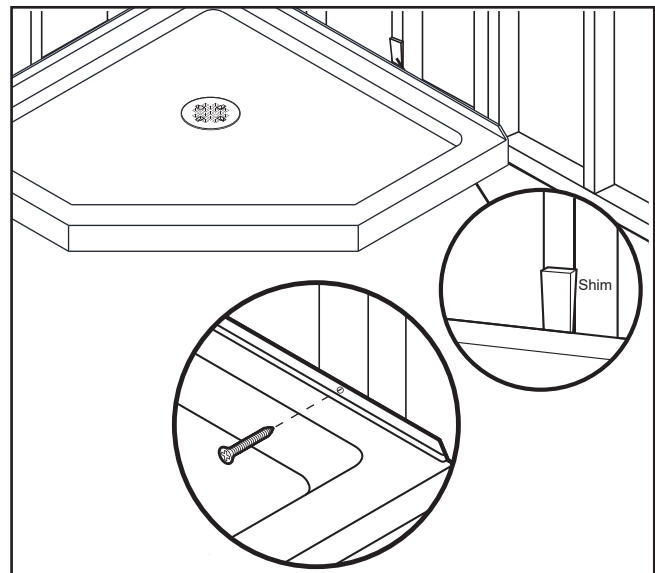

Fig. 6
- It is recommended not to stand in base while securing to wall. Set base in corner and press it into mortar. Secure flanges to all studs with #8(1-1/2") screws through previously drilled holes. (Fig 6)